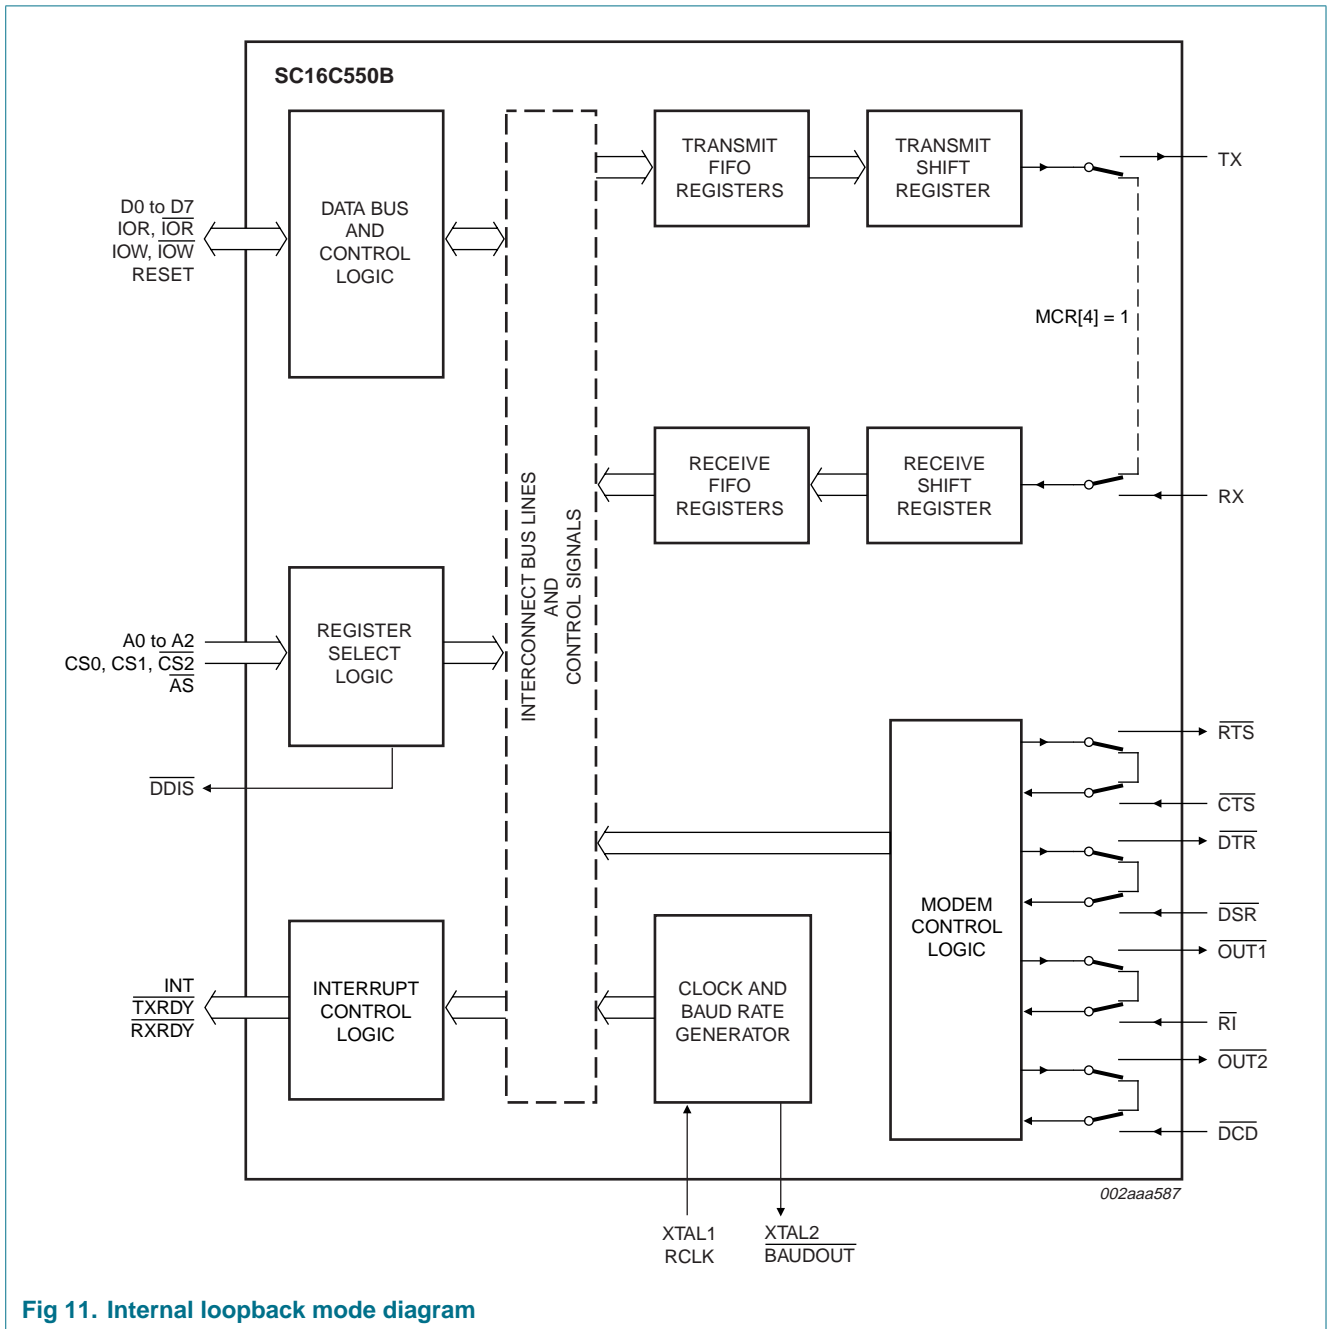

Fig 11. Internal loopback mode diagram
The internal loopback capability allows on-board diagnostics. In the loopback mode, the normal modem interface pins are disconnected and reconfigured for loopback internally. MCR[0:3] register bits are used for controlling loopback diagnostic testing. In the loopback mode, OUT1 and OUT2 in the MCR register (bits 3:2) control the modem \overline{RI} and \overline{DCD} inputs, respectively. MCR signals \overline{DTR} and \overline{RTS} (bits 0:1) are used to control the modem \overline{CTS} and \overline{DSR} inputs, respectively. The transmitter output (TX) and the receiver input (RX) are disconnected from their associated interface pins, and instead are connected together internally (see Figure 11). The inputs \overline{CTS} , \overline{DSR} , \overline{DCD} , and \overline{RI} are disconnected from their normal modem control input pins, and instead are connected internally to \overline{DTR} , \overline{RTS} , $\overline{OUT1}$ and $\overline{OUT2}$. Loopback test data is entered into the transmit holding register via the user data bus interface, D0 to D7. The transmit UART serializes the data and passes the serial data to the receive UART via the internal loopback connection. The receive UART converts the serial data back into parallel data that is then made available at the user data interface D0 to D7. The user optionally compares the received data to the initial transmitted data for verifying error-free operation of the UART TX/RX circuits.